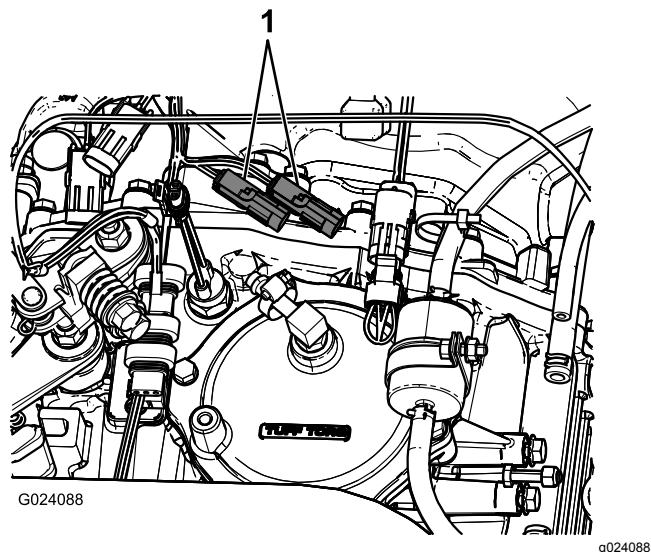

Figure 16
- At the transaxle of the machine, connect the 3-pin connector of the wire harness of the machine for speed sensor into the 3-socket connector of the sprayer harness for the speed sensor (Figure 16).